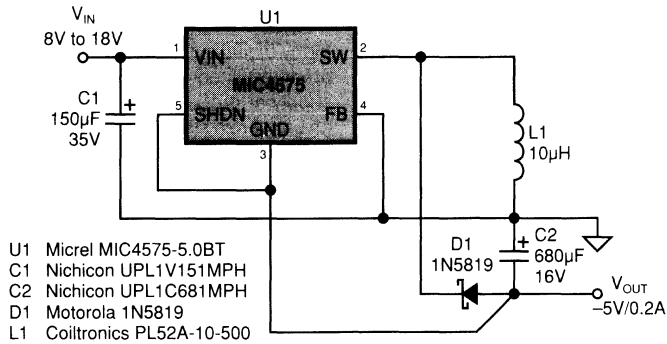

Figure 2. MIC4575 Discontinuous Design (8V-18V to -5V/0.2A)
Figure 2 shows a design that eliminates a level-shifting op amp by connecting the MIC4575 ground pin (GND) to the negative output voltage and the feedback pin (FB) to ground. The only drawback to this scheme is that the shutdown signal is now referred to the -5V output instead of to ground, requiring a level-shifting transistor to implement this function.
A discontinuous design, as in Figure 2, eliminates the RHP zero because an RHP zero occurs only in continuous mode. This produces the simplest circuit, although output current is one-half and peak current is about double when compared to a equivalent continuous design.